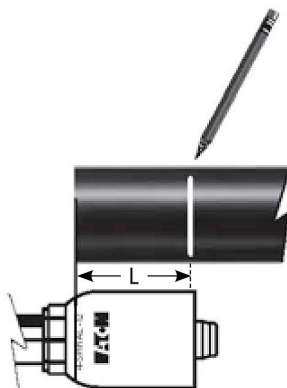

Figure 2
- To determine hose insertion length (L), align end of hose to top of stenciled dash size or scribe line (located on the socket taper) and mark hose where the socket ends as shown in Figure 2.